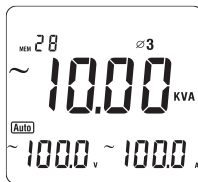

Figure 17
- Press **SELECT** again to choose the third phase $\emptyset 3$, see figure 17.
4. When measuring 3 phase 4 wires: (see figure 17, 18, 19)